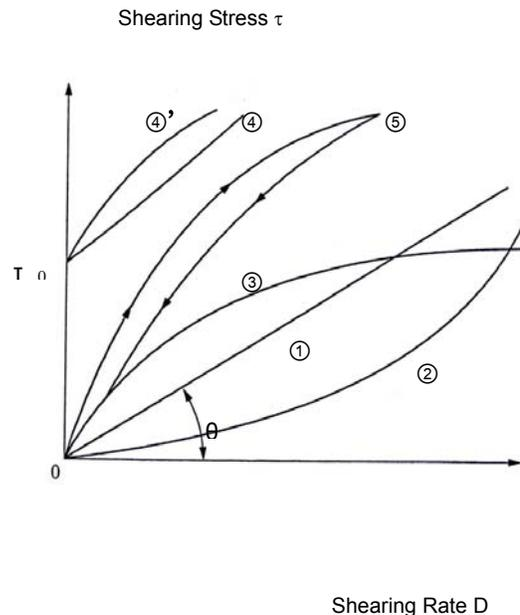

Figure 3. Newtonian Fluid and Non-Newtonian Fluid (Yutaka Matsuyama, Jitsuyo Kogyo Bunseki, 61, The Energy Conservation Center, 2001)
Figure 3 shows the relationship between shearing rate  $D$  and shearing stress  $\tau$ . As straight line ① shows, where they are in proportion indicating a constant slope of the line, it is a Newtonian fluid. Where  $\theta$  stands for the slope, viscosity  $\eta$  is written by the following equation (4);